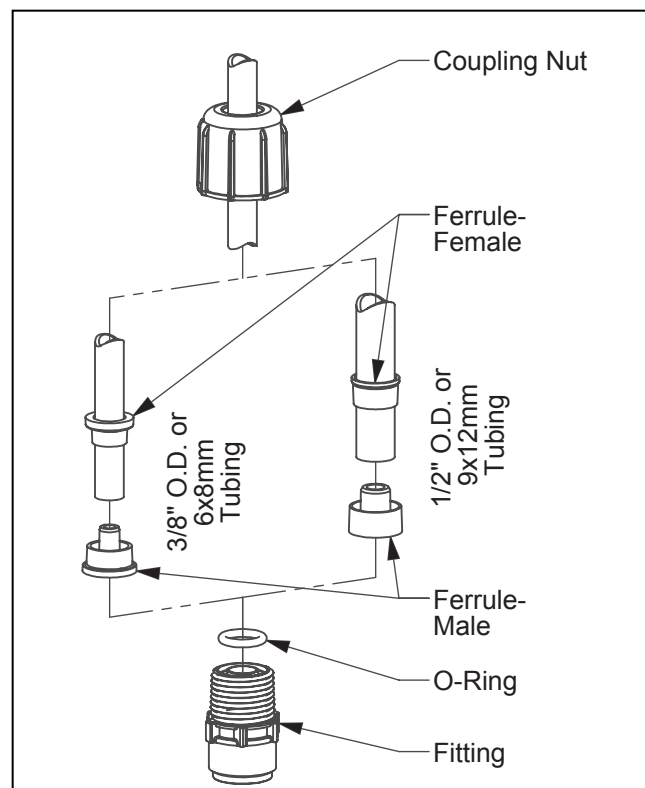

Figure 7B.
- b. **For 3/8" or 1/2" OD tubing:** Position a Female Ferrule about 1 inch (25 mm) from end of tubing. Orient the raised collar of the Female Ferrule toward the Coupling Nut. Then, insert the Male Ferrule onto the end of the tube, pushing the tube into the bottom of the groove in the Male Ferrule. Then slide the Female Ferrule down the tubing and with your fingers, press tightly into the Male Ferrule (*reference FIGURE 7B*).